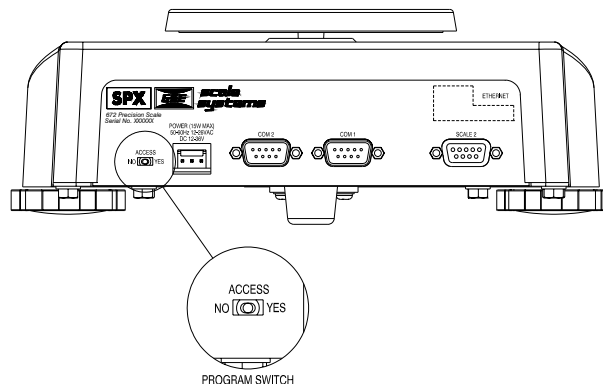

Figure 11: Program Switch
1. Before applying a wire seal, move the program switch to the 'NO' position as shown in Figure 11. This will prevent access to the Setup and Calibration Modes.